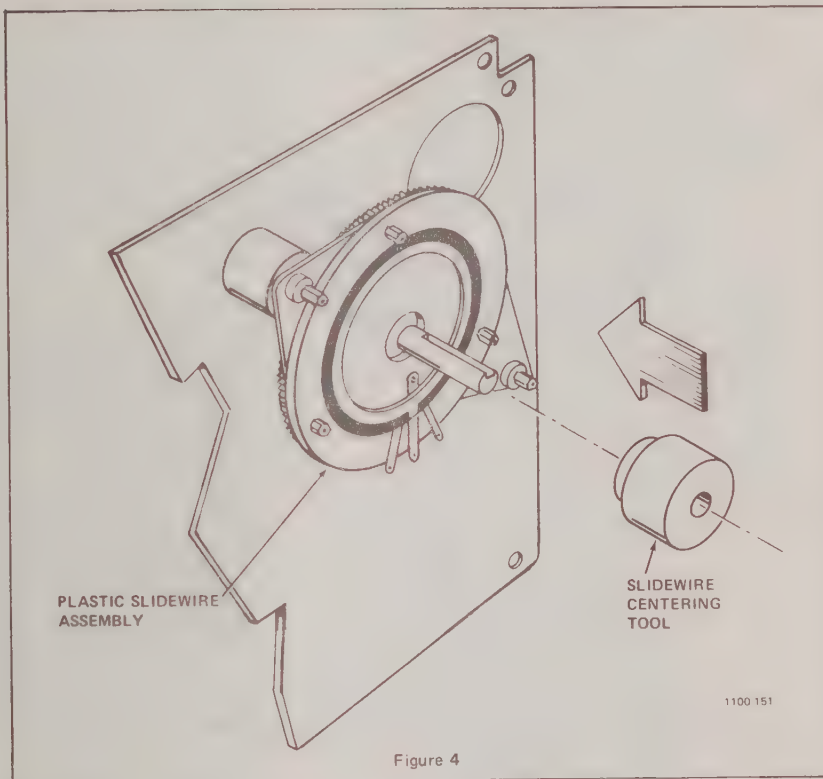

Figure 4
3. Position slidewire centering tool, see Figure 4, on the servo drive shaft, bevelled end toward slidewire. Slide tool along shaft and up against center of slidewire assembly. The bevelled nub will center slidewire.